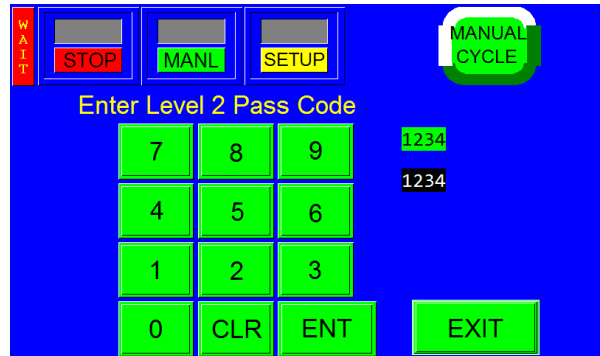

Figure 3-37
- Level 2: This level pass code, when the pass code function is enabled, prevents the operator from accessing settings screens that affect the operation of the equipment. See Figure 3-37.